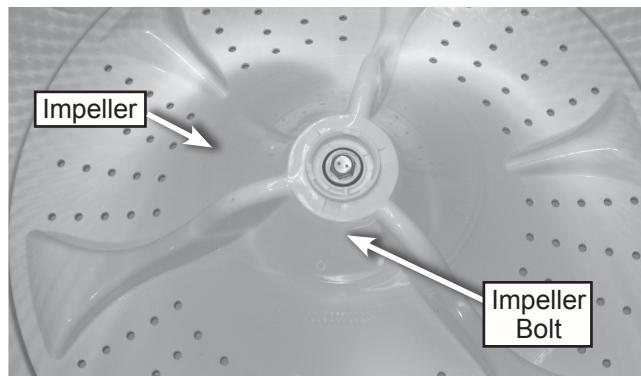

Figure 2
2. Remove impeller. Remove cap covering impeller bolt, with a flat blade screwdriver. Remove impeller bolt, pull up on impeller to remove. See Figure 2.